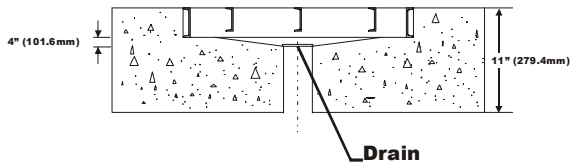

FIG. 23 DRAIN INSTALLATION DIMENSIONS
- Step 3. Should pit drainage be required, slope the pit floor to an installed drain while maintaining a level area at each corner. (See Fig. 23)
- If a drain is required, form the pit to place a slope in the pit floor to the drain. (See Fig. 23)